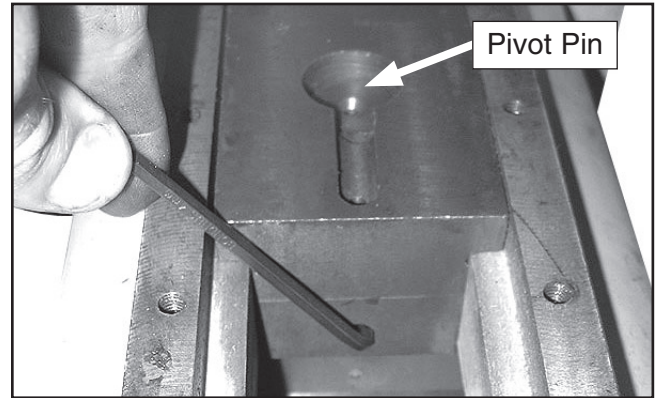

Figure 13. Pin adjustment.
- Using a 4mm hex wrench, snug the slide block set screw so the brass plug is slightly preloaded against the pivot pin (**Figure 13**).